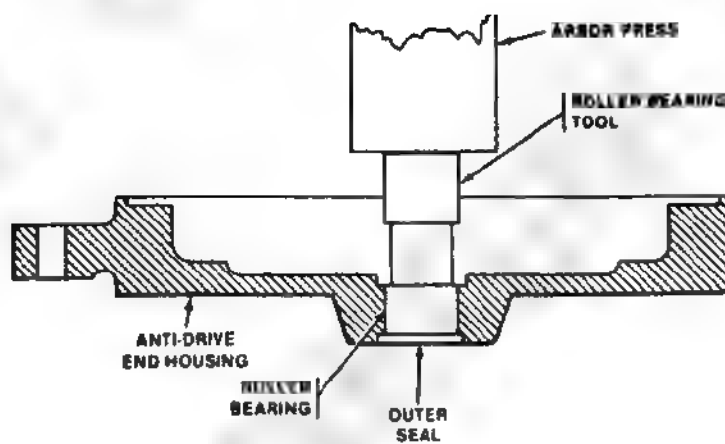

Figure 3-5. Roller Bearing and Outer Seal Removal from Anti-Drive End Housing.
(b) Turn anti-drive end housing over, and place it in arbor press according to figure 3-5
(c) Place roller bearing tool (fig. F-1) on roller bearing flange according to figure 3-5 and press out outer seal (11) and roller bearing (12) at the same time. Discard bearing and seal.